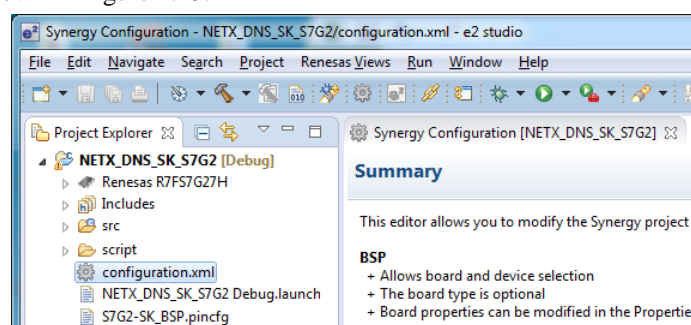

Figure 2.13 Project Explorer
2. Open the Synergy Configuration, if not already open, by double-clicking the `configuration.xml` file in the Project Explorer, as shown in Figure 2.13.